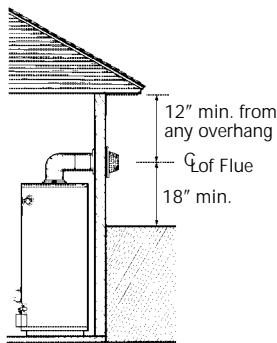

Figure 2
- 18" minimum from the ground and 12" from ceiling overhangs. Figure 2, page 8.